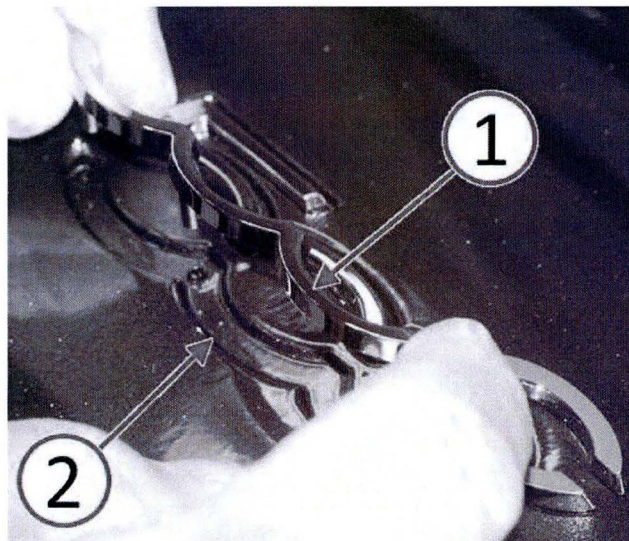

Fig. 6 Align And Install New Name Plate
7. Carefully align and install the new "500" name plate (1) to the instrument panel bezel name plate depression (2) (Fig. 6).